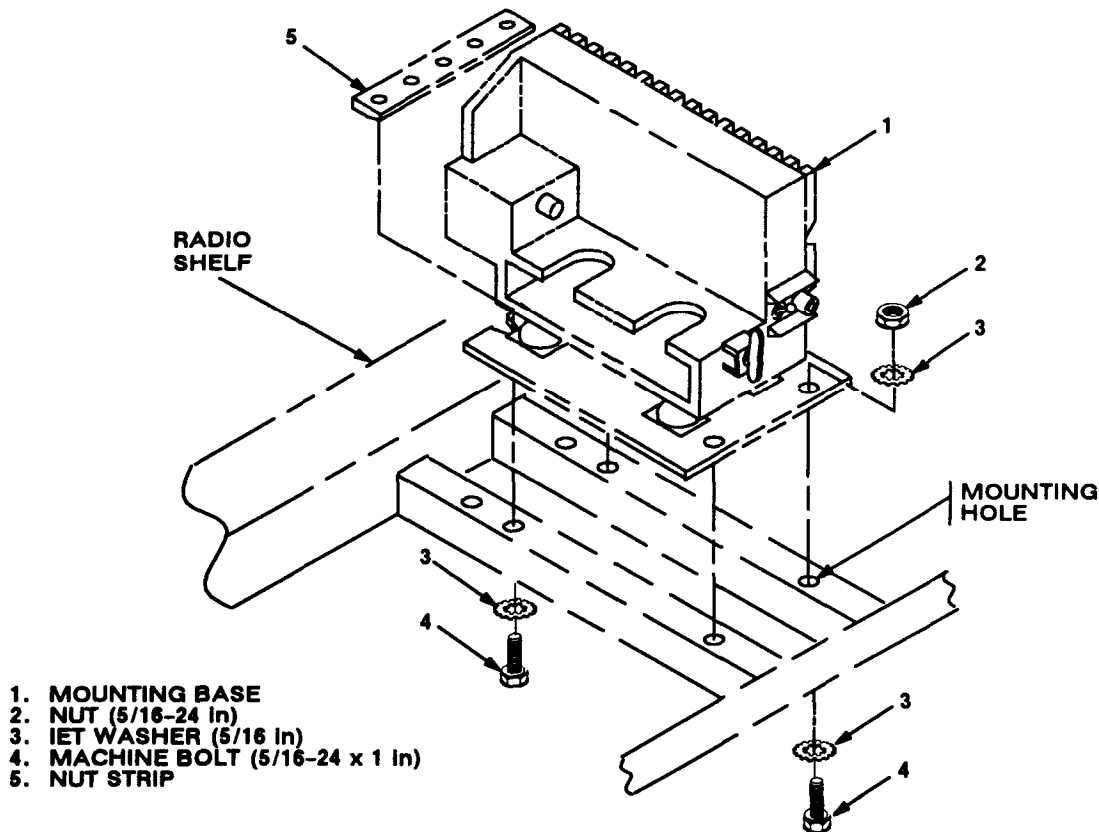

Figure 5-8. MT-6353/VRC Mounting Base Installation
- a. MT-6353/VRC mounting base (1). Place on radio shelf over existing holes. See figure 5-8.
b. MT-6353/VRC mounting base (1).	Aline front holes and rear slots with matching hole pattern in radio shelf. See figure 5-8.
c. Two machine bolts (4), two IET washers (3) and nut strip (5).	Install and secure to rear slots in MT-6353/VRC mounting base (1) and shelf.	Tools: 1/2 in socket.
d. Two machine bolts (4), four IET washers (3) and two nuts (2).	Install and secure to front holes in MT-6353/VRC mounting base(1) and shelf.	Tools: 1/2 in socket and 1/2 in open/box wrench.